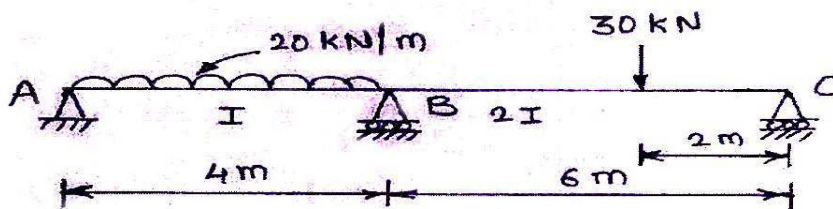

Fig. 3(a)
3. (a) Analyse the two span continuous beam as shown in Fig. 3(a), using three moment theorem. [8]